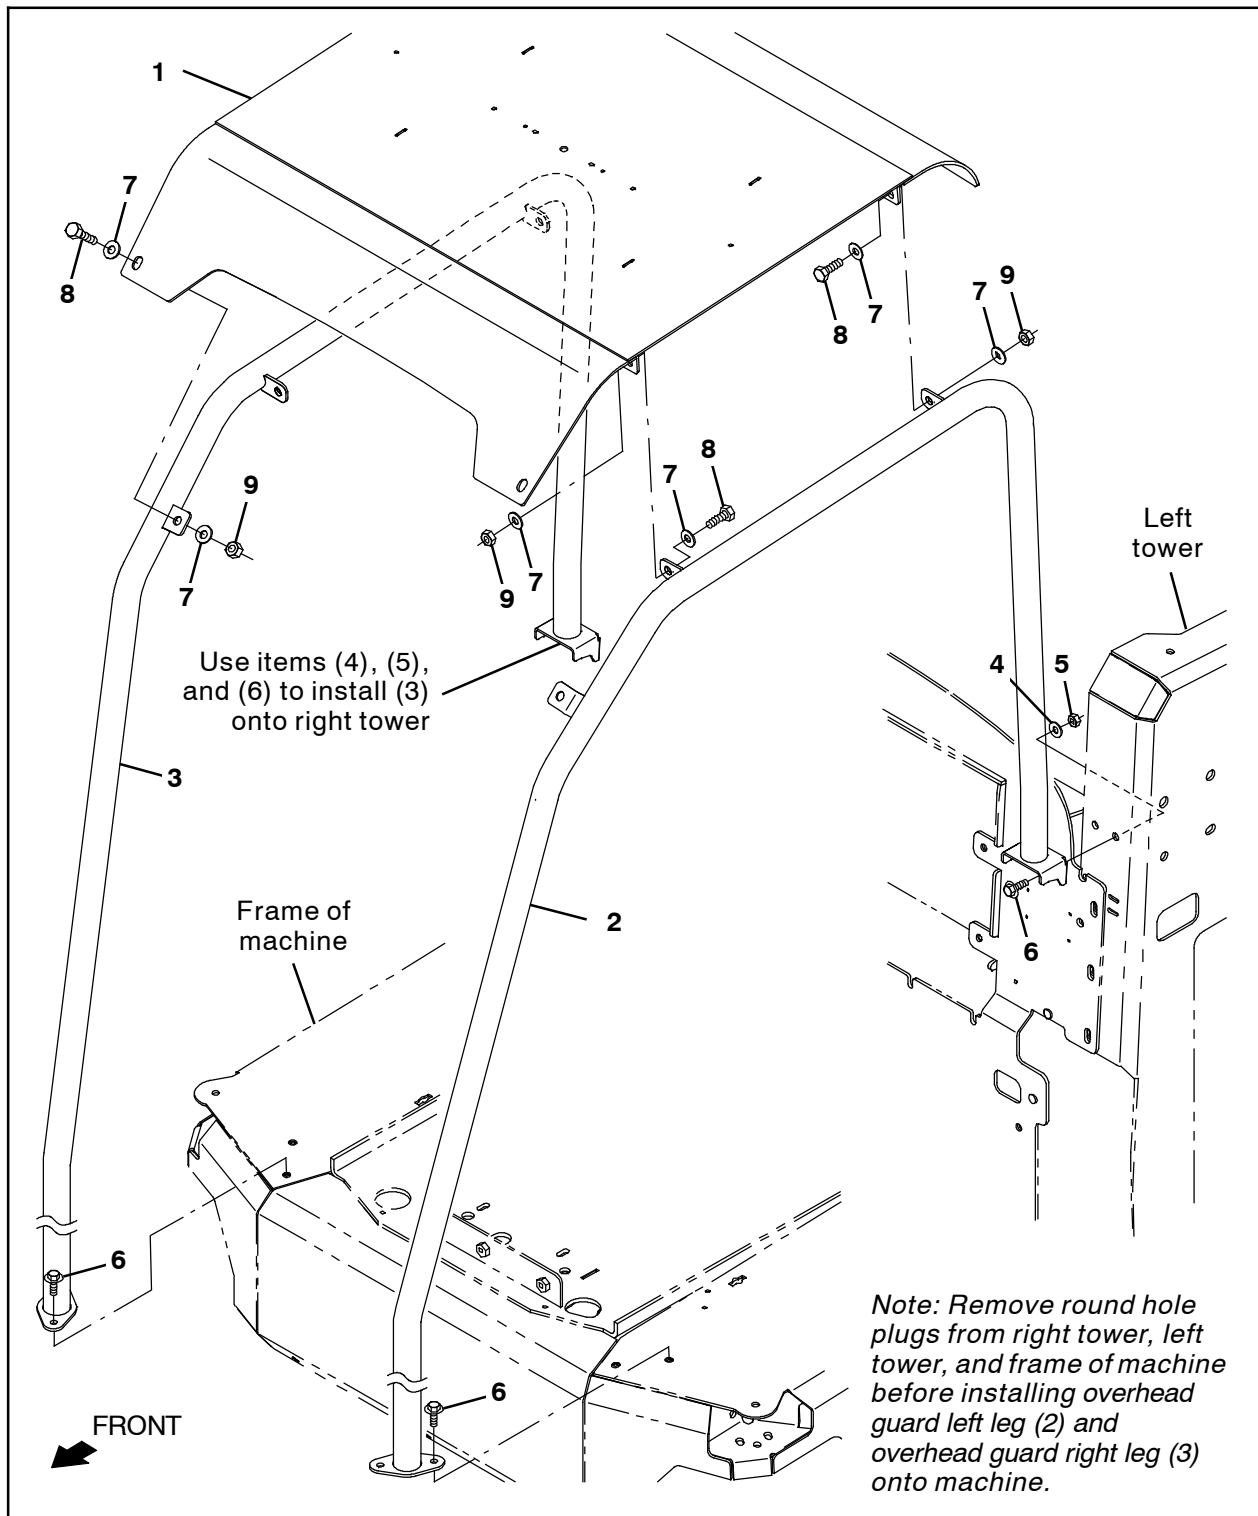

FIG. 7
*NOTE: If there is an overhead hoist or crane available, the overhead guard top (1), overhead guard left leg (2), and overhead guard right leg (3) can be pre-assembled off the machine and then lifted onto the machine to be installed. Leave all hardware loose so the overhead guard left leg and overhead guard right leg can be adjusted for installation onto the machine. Tighten all loose hardware after the overhead guard assembly is fully installed onto the machine.*
*NOTE: Do not completely tighten hardware and hardware used to install the overhead guard top (1), overhead guard left leg (2), and overhead guard right leg (3) onto the machine. All hardware is tightened during final adjustment/installation.*
1. Remove the round hole plugs from the locations where the overhead guard left leg (2) and overhead guard right leg (3) will be installed onto the machine. (Fig. 7)
2. Use two SEMS M8 hex screws (6), two flat washers (4), and two M8 hex nuts (5) to install the overhead guard left leg (2) onto the left tower. (Fig. 1/Fig. 7)
3. Use two SEMS M8 hex screws (6) to install the overhead guard left leg (2) onto the frame of the machine. (Fig. 2/Fig. 7)
4. Use two SEMS M8 hex screws (6), two flat washers (4), and two M8 hex nuts (5) to install the overhead guard right leg (3) onto the right tower. (Fig. 3/Fig. 7)
5. Use two SEMS M8 hex screws (6) to install the overhead guard right leg (3) onto the frame of the machine. (Fig. 4/Fig. 7)
6. Use two M10 hex screws (8), four flat washers (7), and two M10 hex nuts (9) to install the overhead guard top (1) onto the overhead guard left leg (2). (Fig. 5/Fig. 7)
7. Use two M10 hex screws (8), four flat washers (7), and two M10 hex nuts (9) to install the overhead guard top (1) onto the overhead guard right leg (3). (Fig. 6/Fig. 7)
8. Tighten all remaining loose hardware to fully secure the overhead guard assembly to the machine. (Fig. 7)